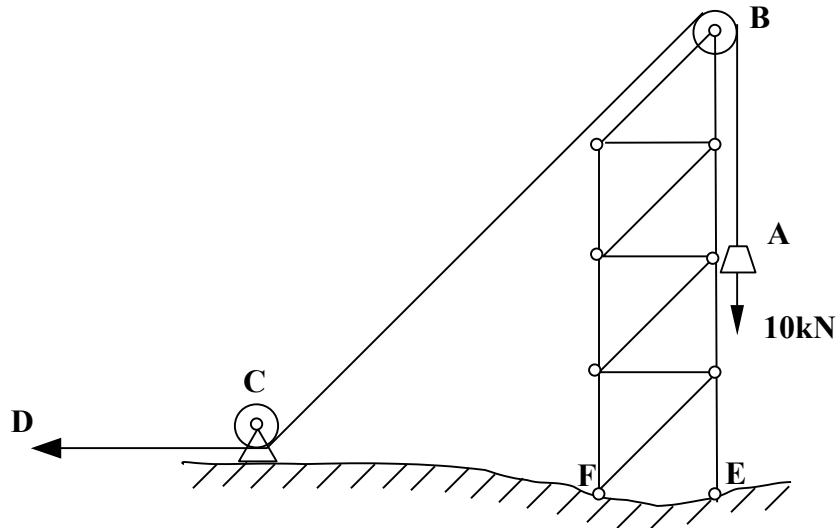

Figure 3
3. Figure 3 shows a tower. A smooth pulley turns on the pin at B. The rope ABCD runs over the pulley at B and round a second pulley at C. The rope is used to lift a weight of 10 kN at A by means of a winch at D. The straight lines in the figure are all horizontal, vertical or inclined at 45° .